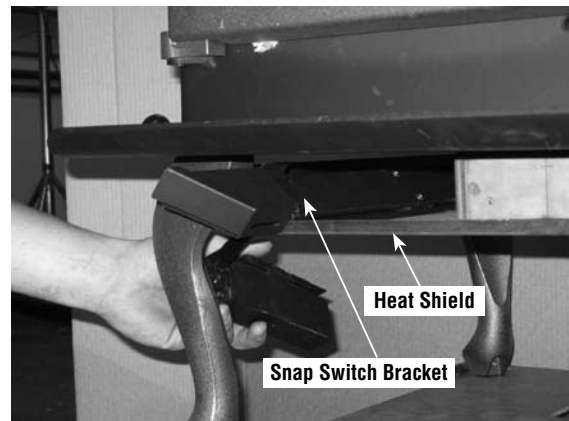

Figure 27
Step 2. Insert snap switch bracket between the heatshield and the bottom of firebox making sure entire assembly is on the left side of the heatshield bolt. Slide back until the notch on the bottom front of the bracket falls into the lip on the front of the heatshield, and assembly is parallel with side of firebox. See **Figures 27 and 28**.